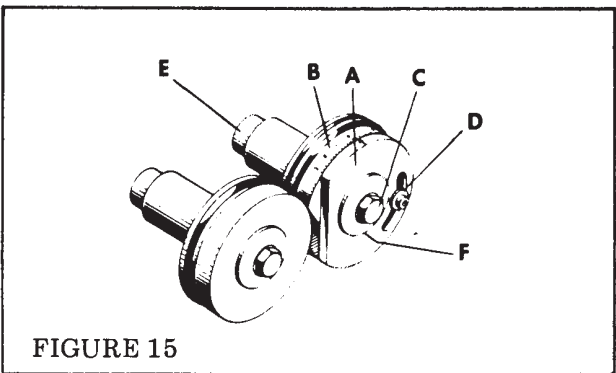
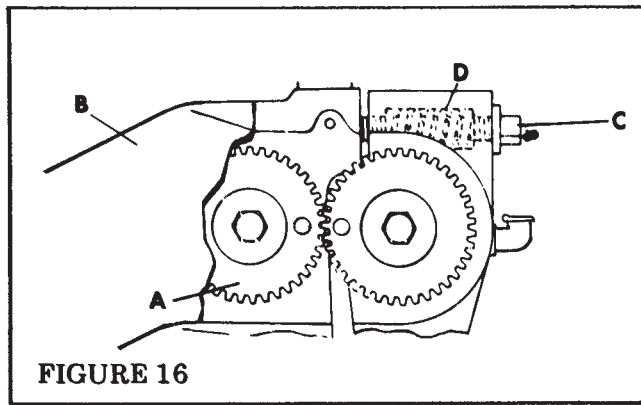

FIGURE 15
FIGURE 16
The right feed wheel (Index B, Figure 15) controls the time at which the wire is fed into the head of the stitcher. If the timing is incorrect, the wire will feed before the cutter blade has cleared the exit of the slot in the cutter tube. This causes the wire to buckle. When the stitcher is in neutral the feed gear (Index A, Figure 16) is properly positioned with the idler gear when the pins in the feed wheel shaft (Index E, Figure 15) are in a vertical position. If a 5/16" or larger size cutter blade is used, reposition the feed gear by one tooth clockwise as you stand in front of the machine.
- (1) Remove the gear guard (Index B, Figure 16).
- (2) Remove the compression spring stud (Index C, Figure 16) and compression spring (Index D, Figure 16) allowing the head plate hinge to swing down out of place.
- (3) Remove the feed wheel screw and feed wheel (Indexes C and B, Figure 15).
- (4) Push the feed wheel shaft (Index E, Figure 15) back until the feed gear is disengaged from the idler gear.
- (5) Reposition the gears as described in the preceding paragraph.